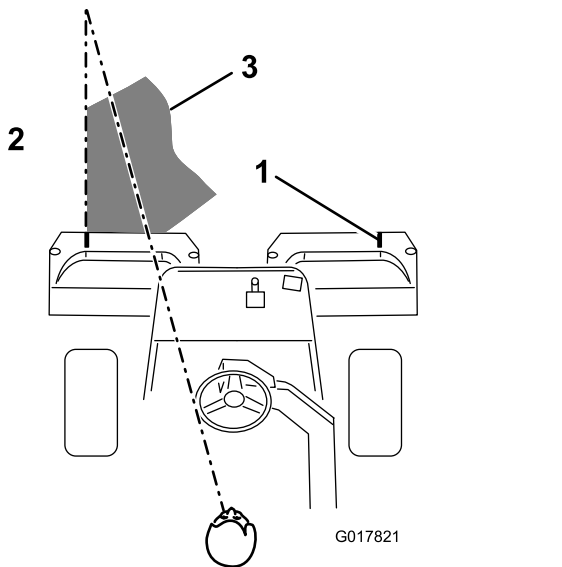

Figure 39
**Note:** To assist in maintaining a straight line across the green and keep the machine an equal distance from the edge of the previous cut, establish an imaginary sight line approximately 1.8 to 3 m (6 to 10 ft) ahead of the machine to the edge of the uncut portion of the green (Figure 39).
Some find it useful to include the outer edge of the steering wheel as part of the sight line; i.e. keep the steering wheel edge aligned with a point that is always kept the same distance away from the front of the machine (Figure 39).